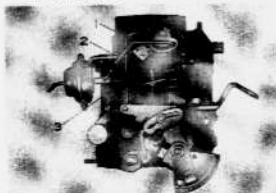

Fig. 5-64 Removing Links 01903
2. Loosen and remove the choke wire clamp securing screw (6), and remove the choke wire clamp (4), magnetic valve (2) and gasket from the air-horn.
3. Remove the snap ring of the connecting link (2), connector (3) and 1st idle connector (1) from the carburetor. (Fig. 5-64)
- a. Remove the pump plunger spring (1), if necessary to remove the steel ball, remove the check ball retainer (2), and take out the steel ball (3).